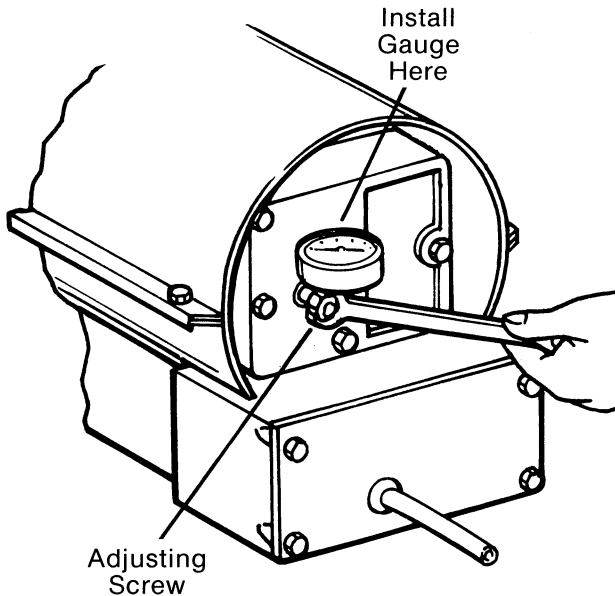

FIG. 8
6. To increase pressure, slowly turn the pressure adjusting screw located on the air output filter cover, in. To decrease the pressure, turn the pressure adjusting screw, out. (Figs. 8 & 9)